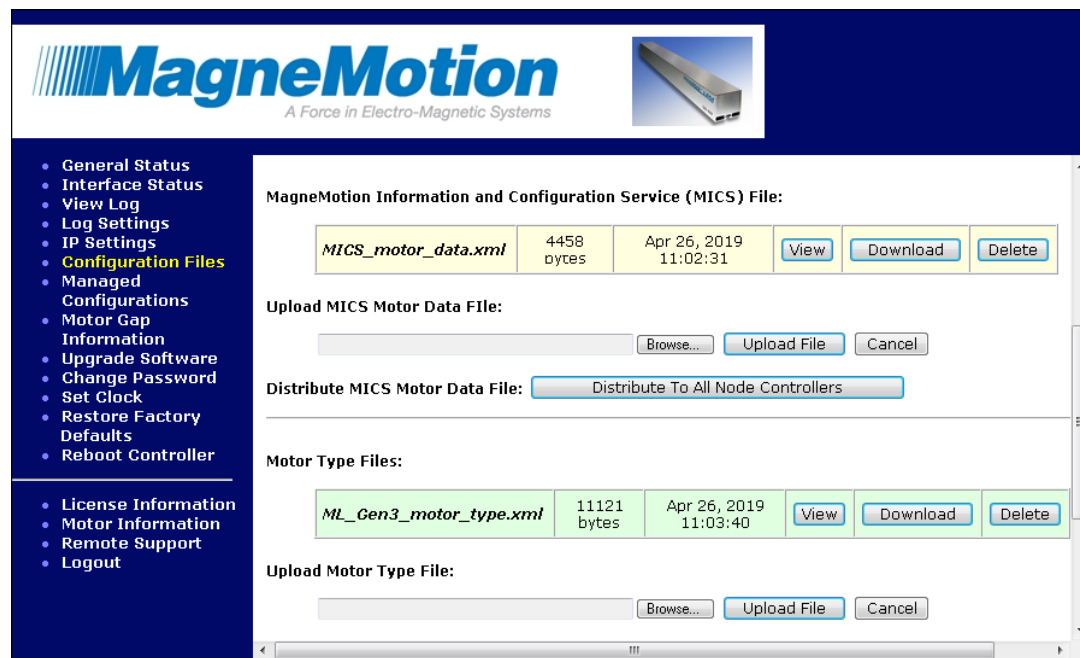

Figure 24: Configuration Files Page, MICS File Upload
*The **Configuration Files** page, is displayed as shown in Figure 24.*